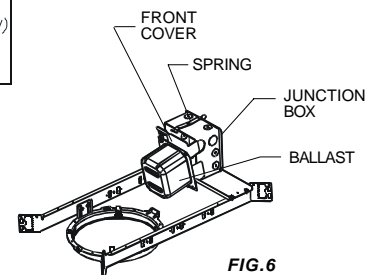

FIG. 6
4. **For ballasts mounted to Junction-Box (Fig. 6)**
- c) Pull off the *front cover* by lifting the *spring* on the *junction box*. (Fig. 6)
- d) Remove the *ballast* through the ceiling opening. (Fig. 6)
- e) Replace the *ballast*. (Fig. 6)